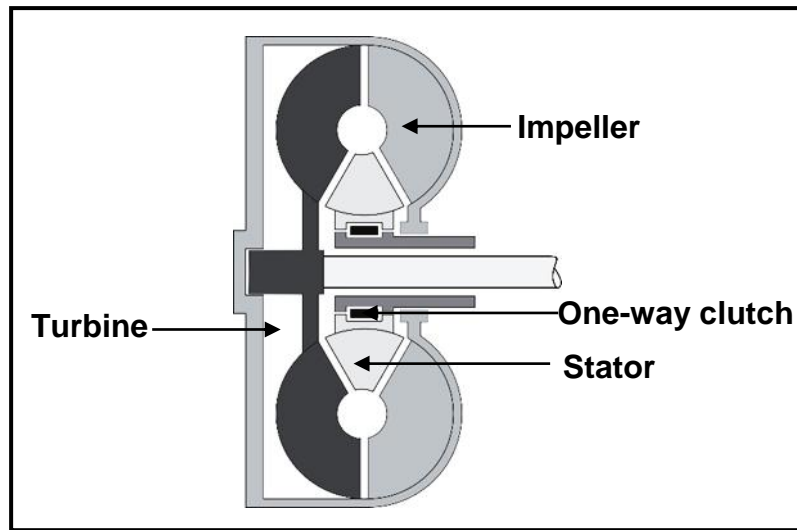

FIGURE 9.2
9.2 FIGURE 9.2 below shows a torque converter used in automatic transmissions.